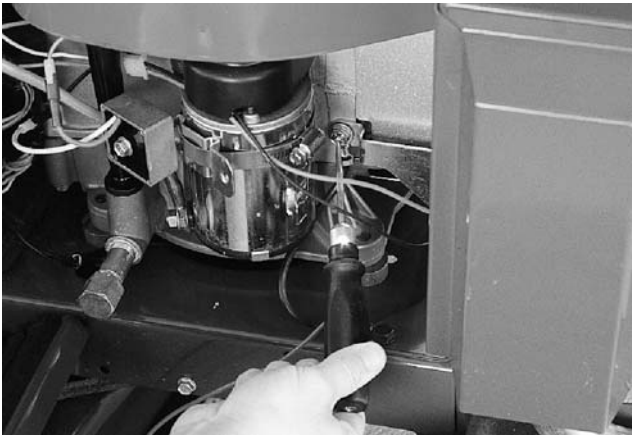

Figure 3-23.
10. To test for ground, connect one test lead to the positive terminal of the battery and the other lead to the engine block. If voltage is present the engine is grounded properly. If not, check that the ground wires are clean and properly connected. See Figure 3-23.